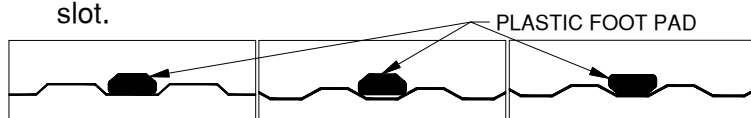
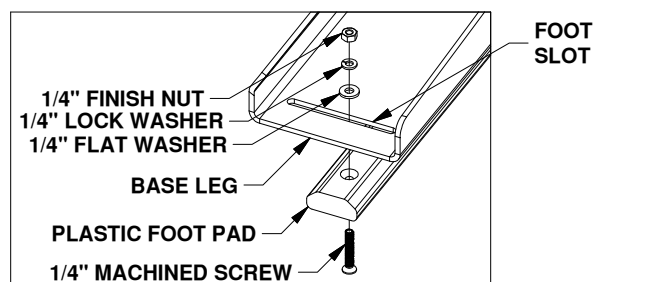

Figure A1:
Figure A4: Plastic foot pad installation.
- 1. Attach foot pads.** Locate the two plastic foot pads. Each pad attaches to the base through a slot at the end of the base leg. Before attachment, check the width of your bed rib by setting the wide face of the plastic foot in a bed rib, see Figure A1. If the plastic foot does not reach to the bottom of the bed rib trough, turn the plastic foot over, see Figures A2 & A3. Locate four 1/4" machine screws, 1/4" flat washers, 1/4" lock washers, and 1/4" finish nuts. Insert the machine screw up through the bottom of the foot pad through the slot and attach it with a 1/4" flat washer, 1/4" lock washer and a 1/4" finish nut, see Figure A4. Do not tighten hardware at this time, so that the plastic foot is movable in the slot.